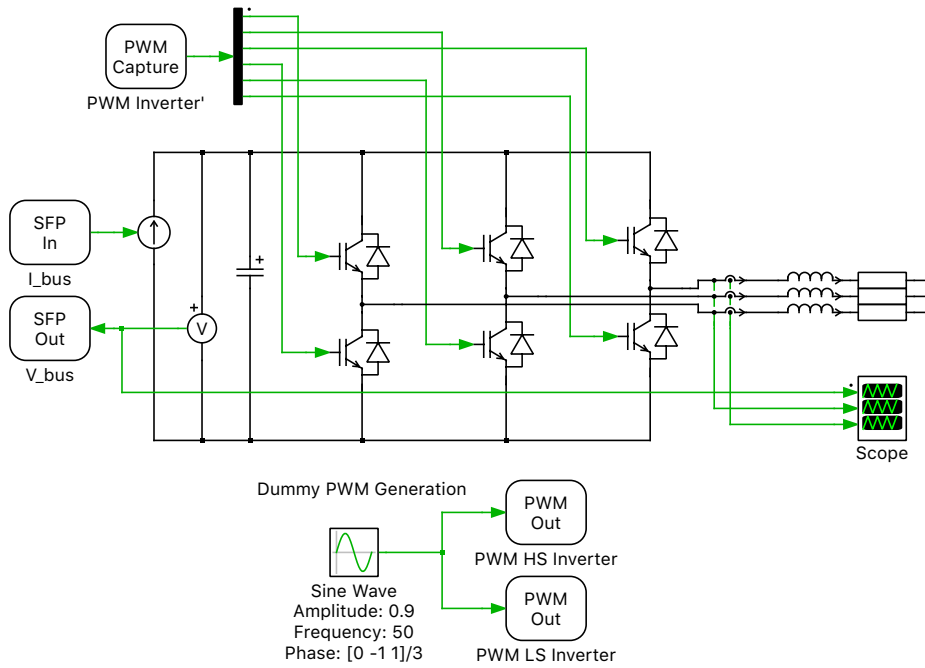

Figure 7: Inverter subsystem after splitting using SFP In/Out ports
- 2 Inside the “Inverter” subsystem, keep the inverter-side circuit and its “dummy PWM Generation”, shown in Fig. 7. The DC-link capacitor is included in the inverter side. Since the capacitor voltage is a state variable, it is measured with a Voltmeter and sent out through an SFP Out block to the rectifier side. The current coming from the rectifier stage is introduced with SFP In block and